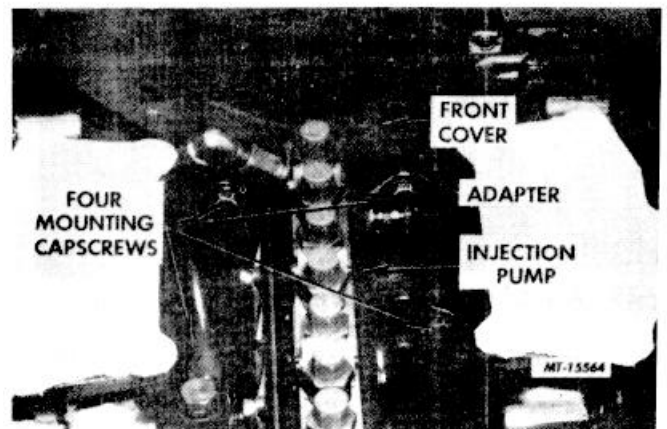

Fig. 35 Injection Pump-to-Engine Mounting
28. Remove four capscrews and lockwashers from injection pump adapter (Figure 35).